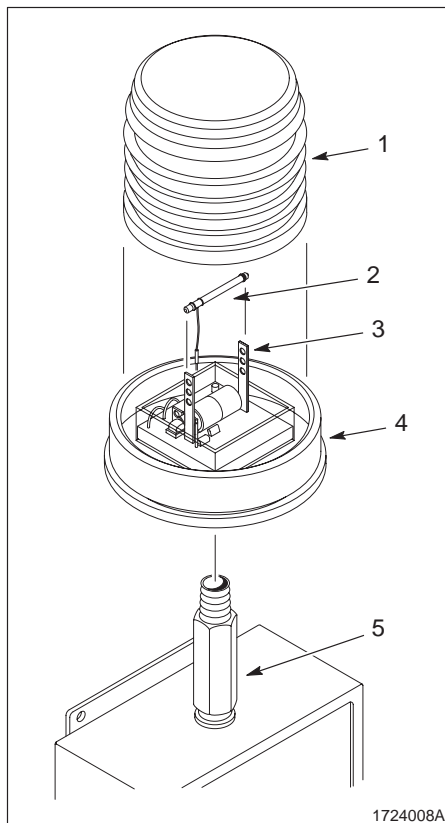

Fig. 13 Strobe bulb and light replacement
1. See Figure 13. Gently pull on the lens (1) to remove it from the strobe light (4).
2. Disconnect the wire lead of the bulb (2) from the strobe light (4).
3. Spread the retainers to remove the bulb (2) from the socket (3).
4. Spread the retainers to install the new bulb (2) in the socket (3).
5. Connect the wire lead to the strobe light (4).
6. Install the lens (1).
3. See Figure 13. Unscrew the strobe light (4) from the nipple (5).
4. Insert the wire leads of the new strobe light (4) through the nipple (5). Screw the strobe light onto the nipple.